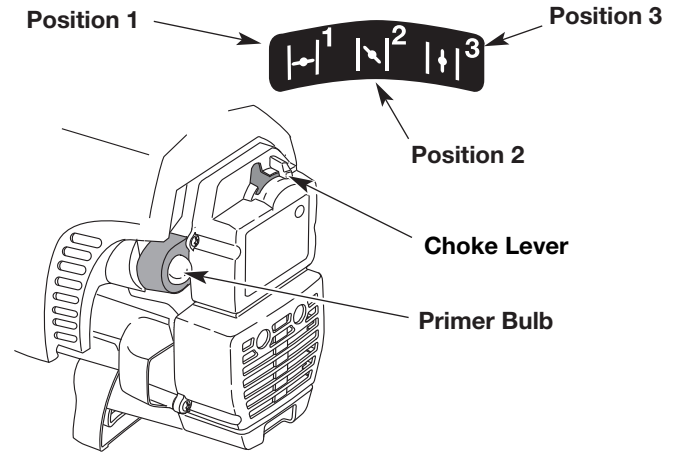

Fig. 11
2. Put the Ignition Switch in the ON (I) position.
4. Fully press and release primer bulb slowly 10 times. Petrol should be felt and visible in the bulb (Fig. 11). If petrol hasn't entered the bulb, press until it does.
5. Place the choke lever in Position 1 (Fig. 11).
8. Place the choke lever in Position 2 (Fig. 11).
11. Allow the engine to warm up for 5 to 10 seconds. Place the choke lever in Position 3 (Fig. 11).